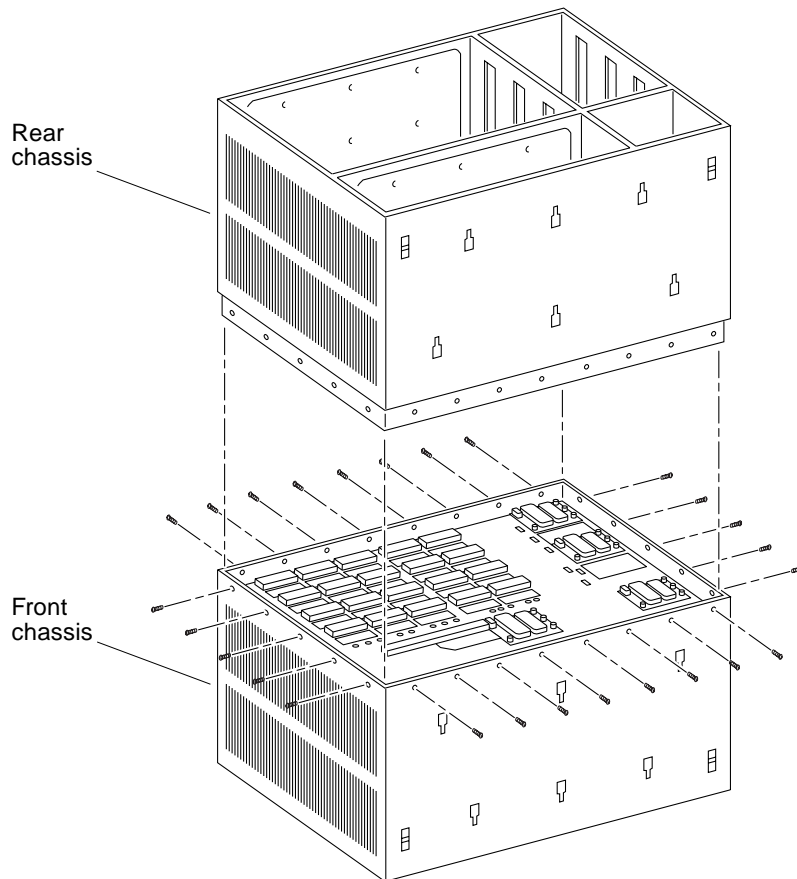

FIGURE 1-8 Front and Rear of System Chassis
2. Lift and remove the rear chassis section and set it aside (FIGURE 1-8).
2. Place the rear chassis on the front chassis, as shown in FIGURE 1-8, and replace the 26 screws around the center of the system chassis